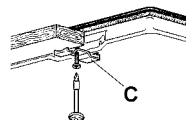

Fig.6
- Introduce and place the cook-top in the hole made in the piece of furniture, then block it with the V screws of the fastening hooks G (fig.6).